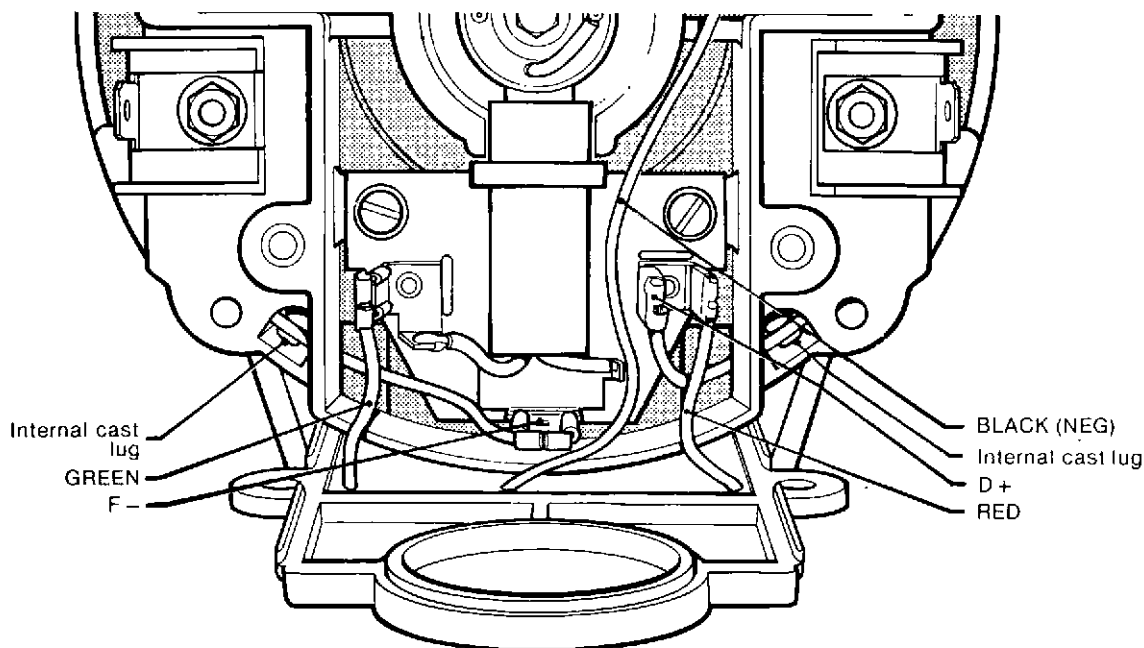

Fig. 3 Regulator connections
7. Connect D+ and F- leads to the Lucar terminals as in fig. 3.
8. After making the connections as in fig. 3, fit the regulator, using two screws and Belleville washers. Tighten the screws evenly to 1.69 Nm (15.0 lbf. inch).